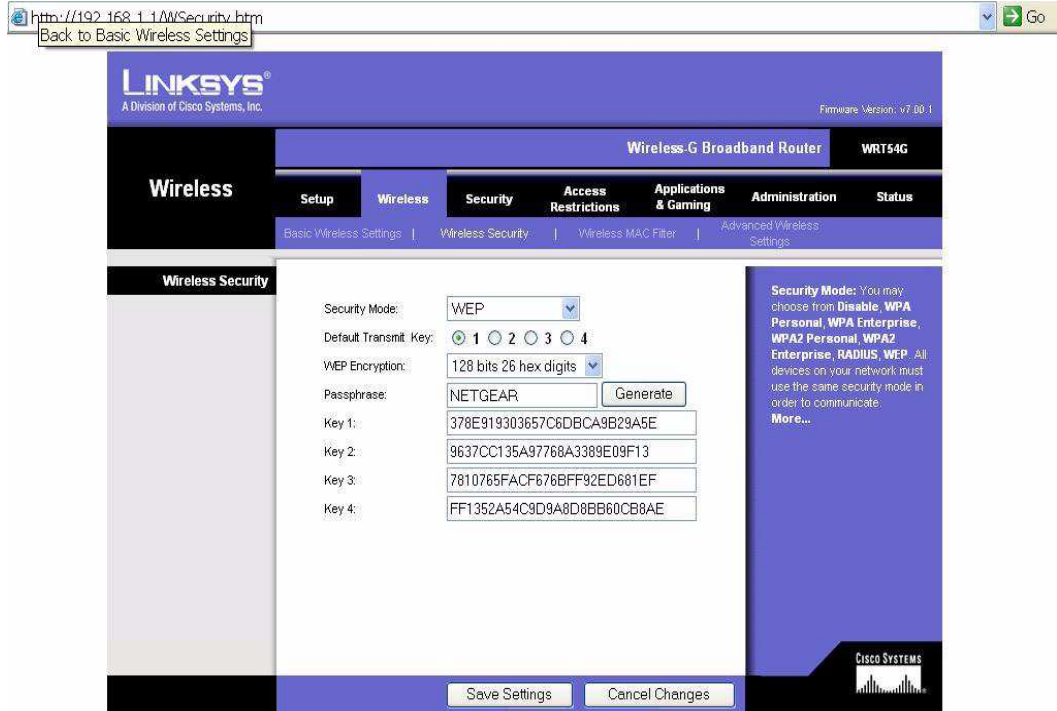

Figure 10. Wireless Security
- ▶ **Note:** *SSID and WEPKEY are provided by the wireless router. In this demo NETGEAR and 378E919303657C6DBCA9B29A5E key are used. See Figure 9 and Figure 10 on page 17.*
10. After successful connection to the BSS (AP) the network stack will be initialized and Zdots® SBC behaves as a complete wireless station.
9. Select **Wireless** → **Wireless Security**. Ensure that WEP is selected on the **Security Mode:** field as displayed in Figure 10 (Change the Security Mode to WEP through the drop down button).